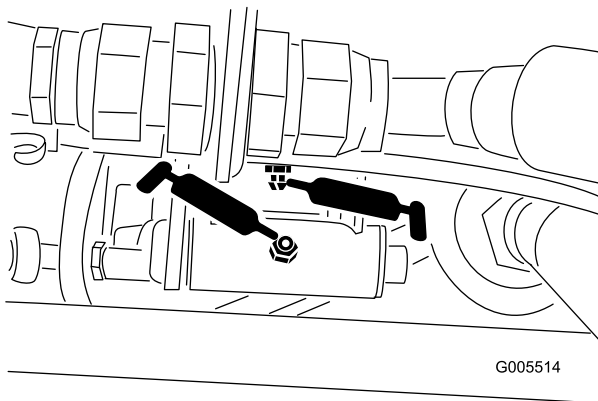

Figure 41
- Speed selector linkage (Figure 41 &)